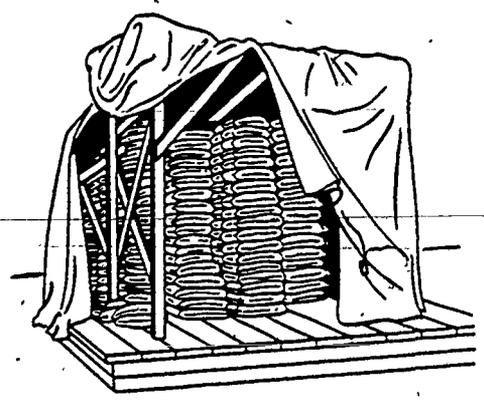

Figure 1. Cement Stored Under a Tarpaulin
- Type III High-early-strength Portland cement is used when high strength is desired at a very early period. In cold weather construction the time required for protection against freezing is reduced. Type III cement is manufactured so it attains normal 3-day strength in 1 day, 7-day strength in 3 days, and 28-day strength in 7 days. This is illustrated in figure 1. The evolution of heat during hydration is also accelerated. Normally, this cement is not used in large-scale operations since it is more expensive than ordinary Portland cement.
STORAGE OF CEMENT. The method by which cement is stored can be an important factor in maintaining concrete of consistent mixtures. Therefore, store the material according to specifications. Sacked cement which is to be stored for a long period of time should be placed in a near airtight warehouse or shed. The floor of the shed should be above the ground and all cracks in the wall sealed. Sacks should be stacked close together to reduce air circulation. The sacks of cement should be stored on a raised floor away from the walls. A suitable temporary storage shed is shown in figure 1. Note that the tarpaulin extends over the edge of the platform to prevent rain from collecting on the platform and